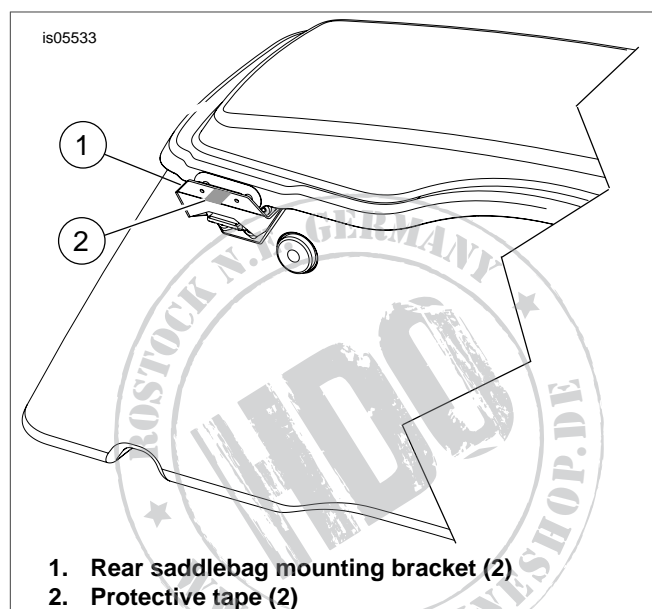

Figure 2. Apply Protective Tape
4. See Figure 2. Apply protective tape (2) to the rear saddlebag mounting bracket (1) on the saddlebag in the location shown. Repeat for the other side.